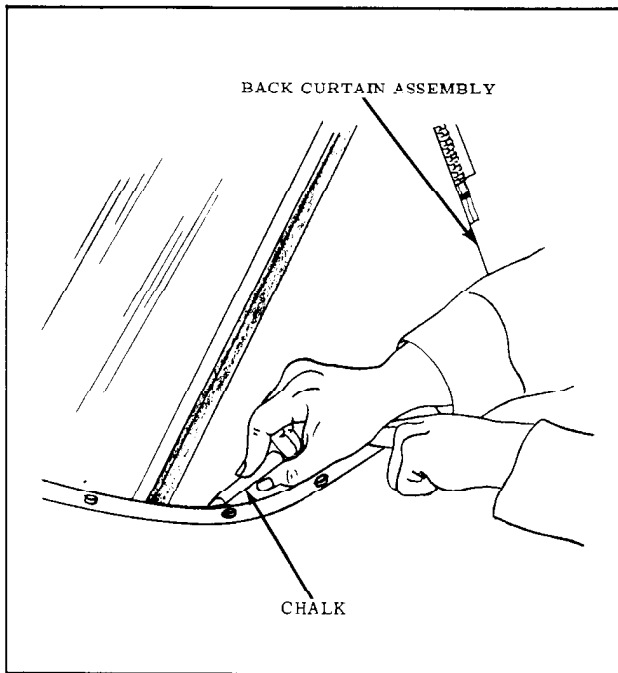

Fig. 17-35 Marking Back Curtain
19. Where required, place reference chalk mark on outer surface of back curtain along pinchweld finishing molding. Readjust back curtain assembly as required. (Fig. 17-35)